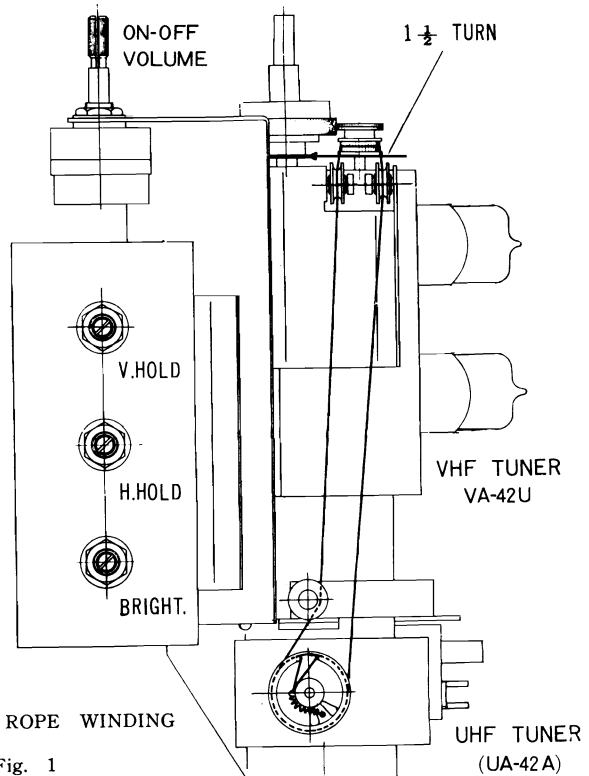

Fig. 1
2. Wind the dial cord $1\frac{1}{2}$ turn around the gear at VHF tuner and $2\frac{1}{2}$ turns around the dial cord drum at UHF tuner. Then fasten the dial cord to the dial cord drum by spring like Fig. 1.